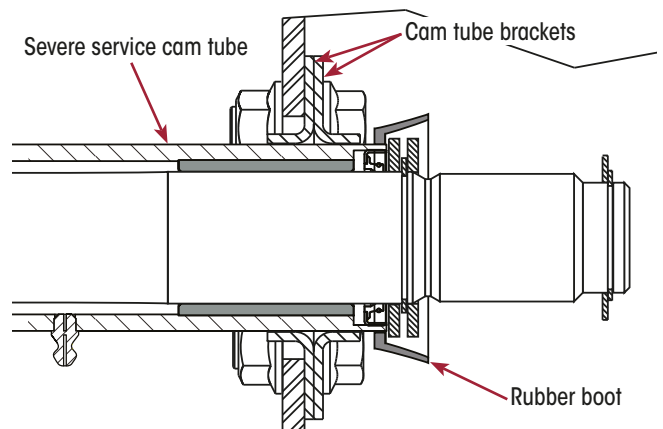

Figure 75: INTRAAX Severe Service Rubber Boot Assembly
11. Snap rubber cam tube boot (Figure 75) over and behind S-cam journal washer.